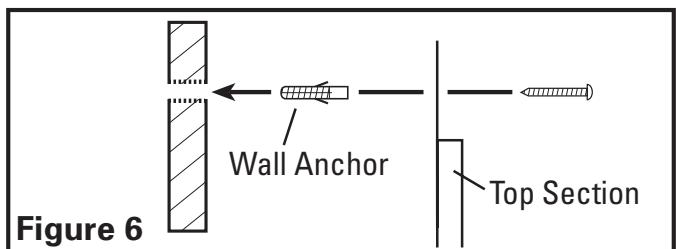

Figure 6
7. Remove the back splash top section and install the included wall anchors by drilling into the wall at the marked locations (**Figure 6**).
8. Lift the top section back into place by hooking the flange of the bottom section into the channel of the top section and line up the 3 holes in the back splash with the wall anchors that were just installed and attach using the included screws (**Figure 6**).